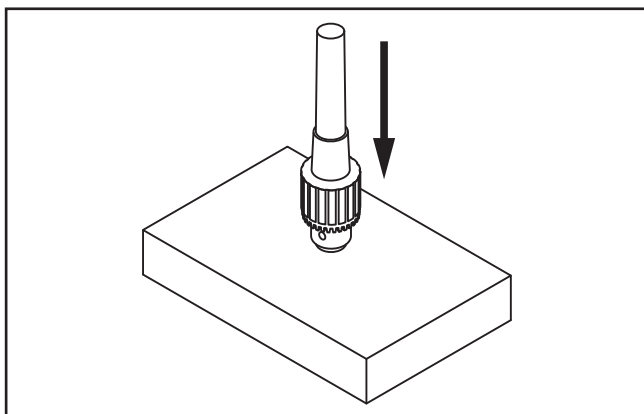

Figure 15. Tapping drill chuck/arbor on block of wood.
4. Hold assembly by arbor and tap chuck onto a block of wood with medium force, as illustrated in **Figure 15**.